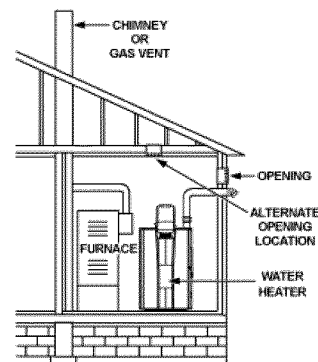

FIGURE 15
5. Alternatively a single permanent opening may be used when communicating directly with the outdoors, or with spaces that freely communicate with the outdoors. The opening should have a minimum free area of 1 square inch per 3,000 BTU per hour (7.3 cm²/kW) of total input rating of all equipment in enclosure (see Figure 15).